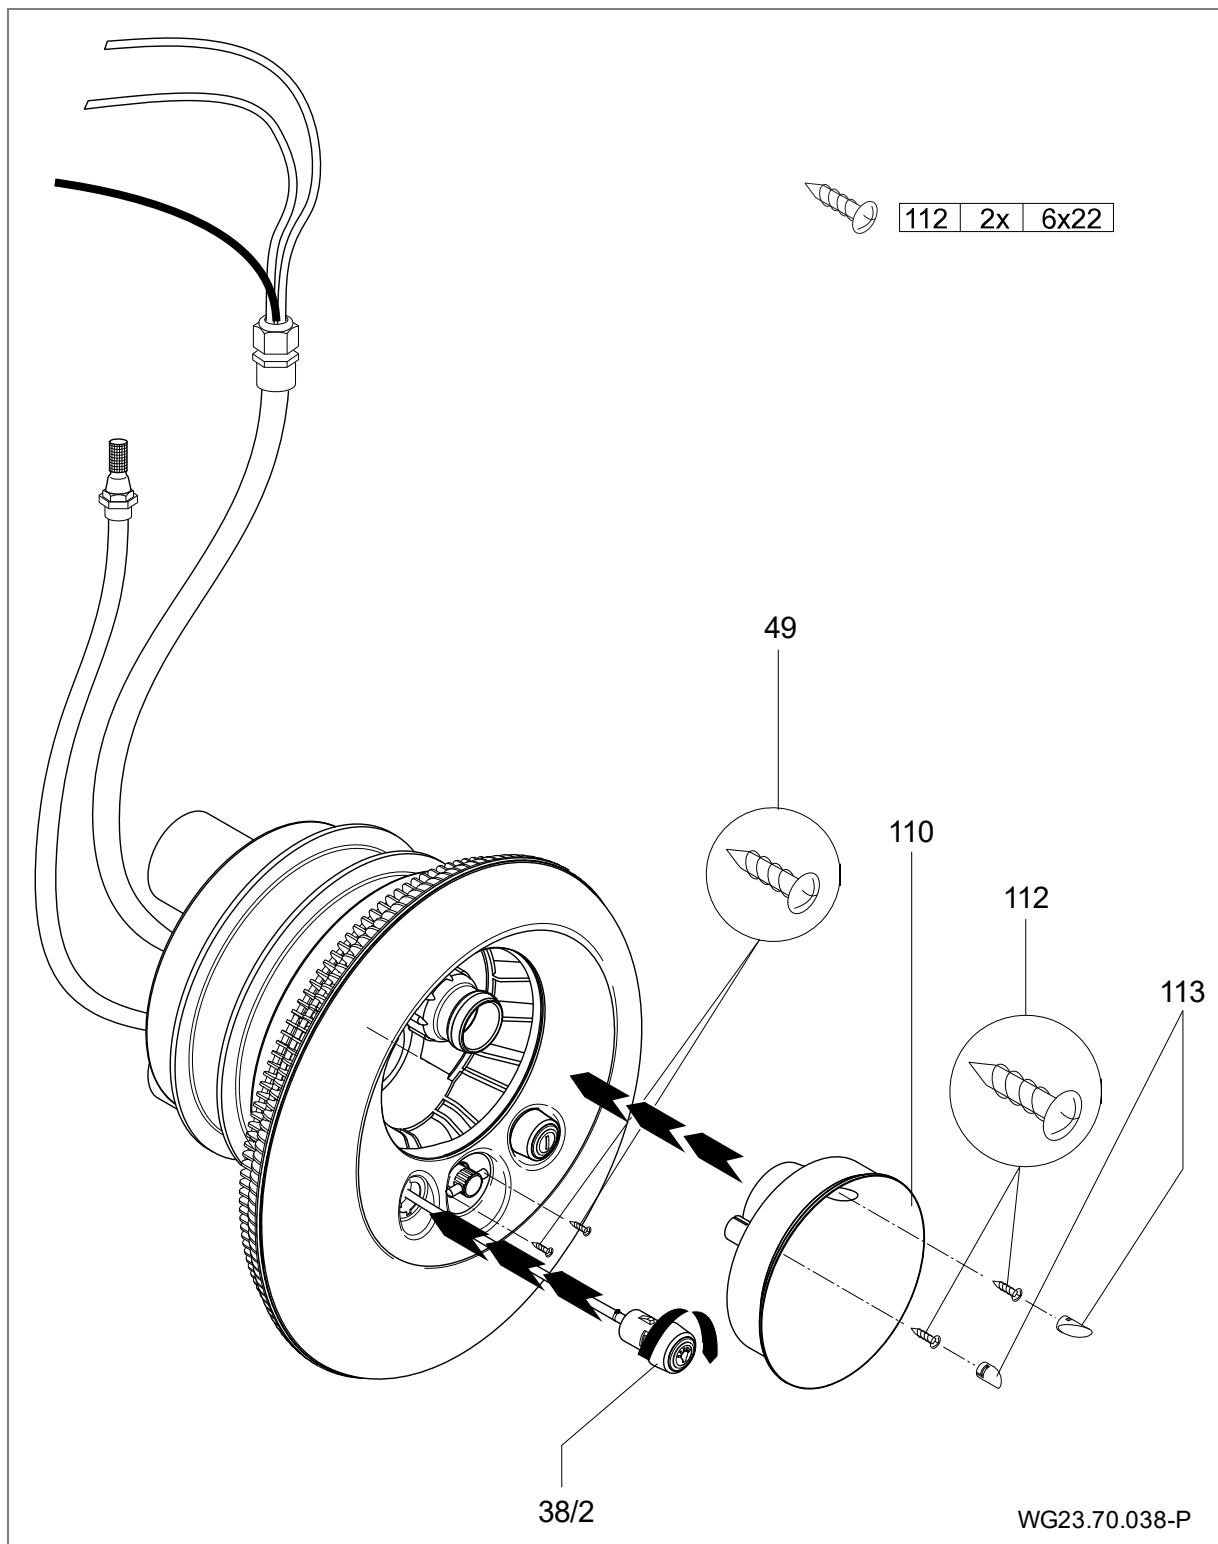

Fig. 20
8. Position the stainless steel cover (93) on the suction housing (107) and attach to the nozzle housing with the screws (49). Insert the two pneumatic buttons through the light cover (110) in the nozzle housing and lock by turning it clockwise. (Fig. 20)
9. By attaching the light cover (110) the stainless steel cover (93) is also attached. Place the light cover over the ball nozzle (54) in the nozzle housing (102.1) and attach it with the screws (112). (Fig. 20)